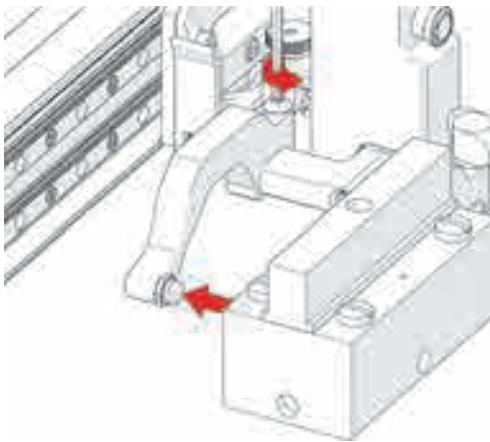

Figure 4-81 Adjust inner arm
3. Loosen the arm clamp screw (see Figure 4-81 on page 153).
4. Place the wedge on the pivot button of the inner probe holder arm (see Figure 4-81 on page 153).